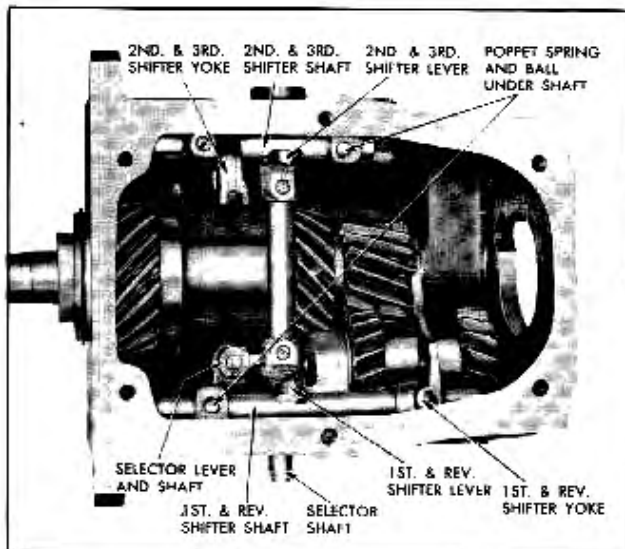

Fig. 7-15 Transmission Shift Mechanism
10. Place transmission levers in neutral and remove set screws using Tool J-2895 holding shifter yokes and shifter levers to their respective shafts (Fig. 7-15). **NOTE:** Each shifter shaft is in neutral when the notch for the shifter lever is directly above the selector shaft.
11. Push second and third shifter shaft out through front of transmission case, taking care to prevent poppet ball and spring from flying out (See Fig. 7-15). Remove shifter yoke, ball and spring.
13. Taking care to prevent poppet ball and spring from flying out, push low and reverse shifter shaft out through rear of transmission case (See Fig. 7-15). Remove shifter yoke, poppet ball, spring, and low and reverse interlock pin.